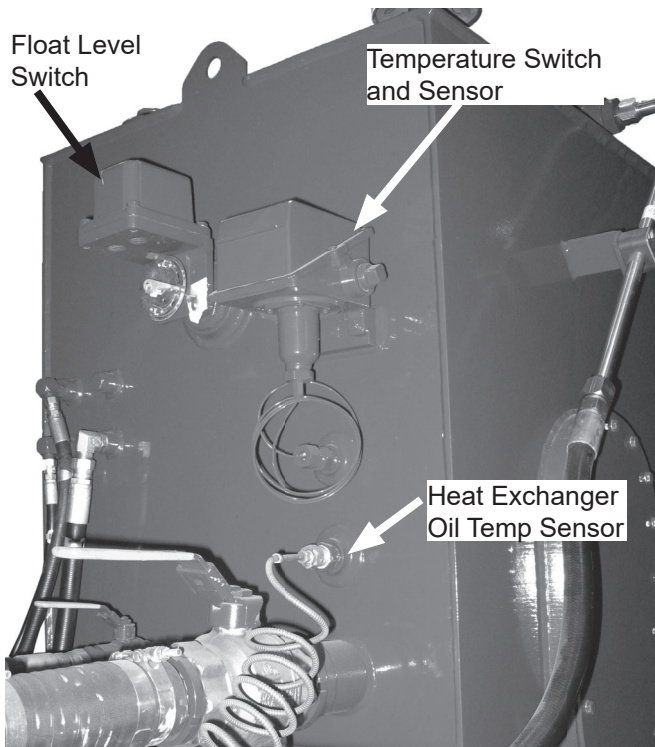

Figure 13 - Temperature and Float Level Switch
**Emergency motor stop and low oil shutdown** The emergency motor stop switch and low oil shutdown float switch (see Figure 13 - Pg. 15) are connected to control box terminals (see wiring diagram 910496). Connect the motor starter power as shown on 910496 to place the switches in series with the motor control circuit.
An emergency low level float switch (see Figure 13) is installed to automatically stop the pump to protect it from damage in the event of line breakage or faulty maintenance. The low level float switch is connected (by others) as shown on wiring diagram 910496.
The optional Oil Cooler uses the Temperature Switch sensor Shown in Figure 13. The Oil to Water Heat Exchanger uses the Heat Exchanger Oil Temp Sensor shown in Figure 13.